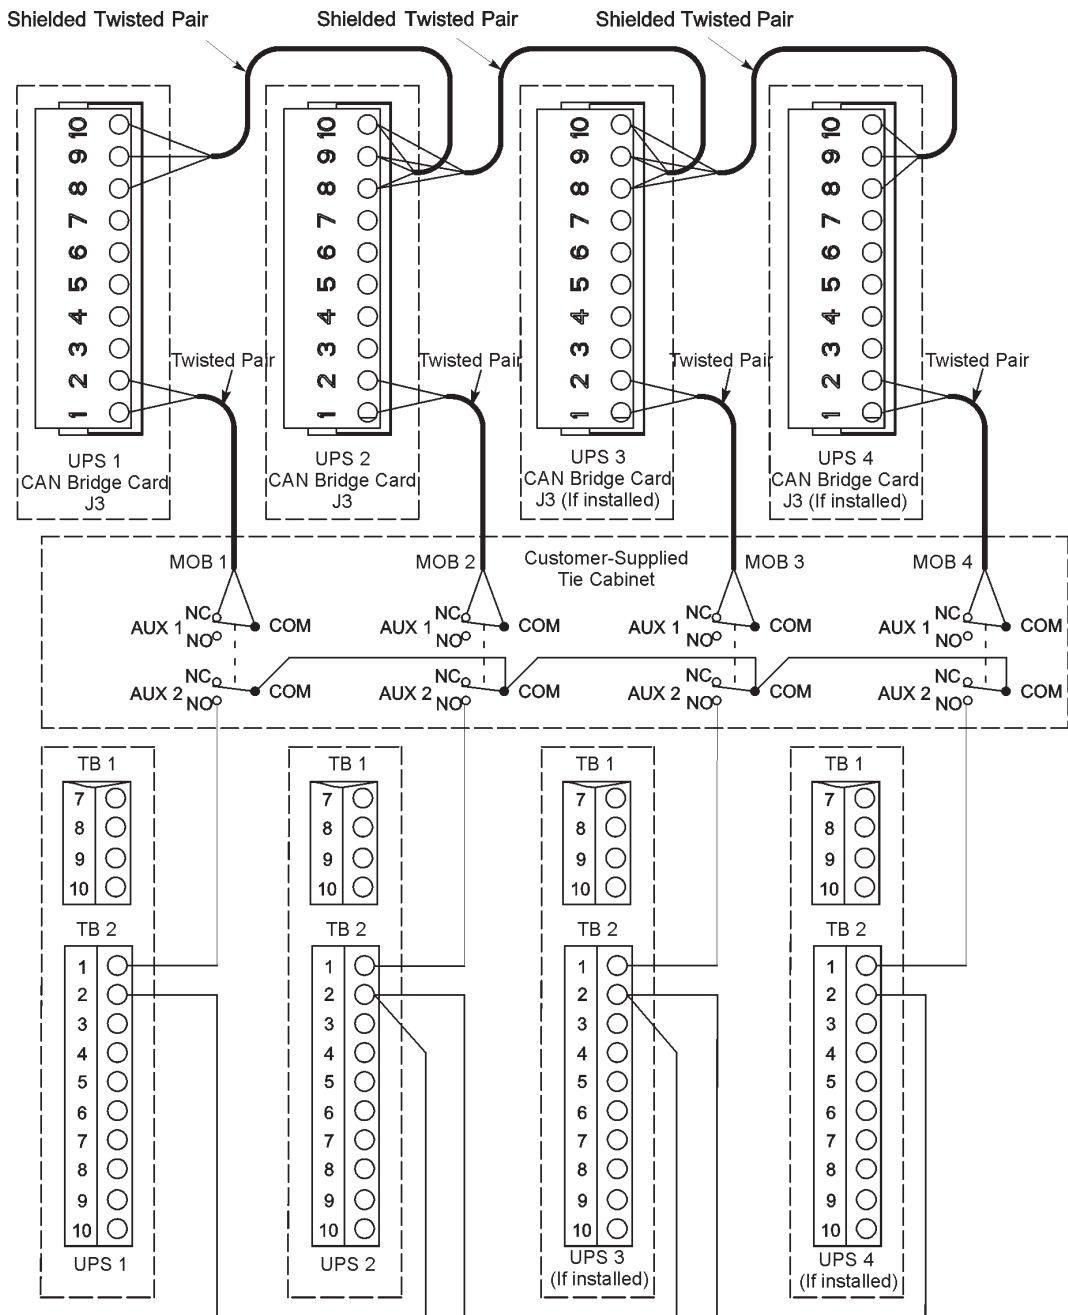

Figure 5-6. Distributed bypass Pull-Chain wiring with MOBs
11. Route and install distributed bypass system pull-chain wiring between the UPS cabinets and tie cabinet MOBs. See Figure 5-6 on page 53 and Table 5-4 on page 54 for wiring information.